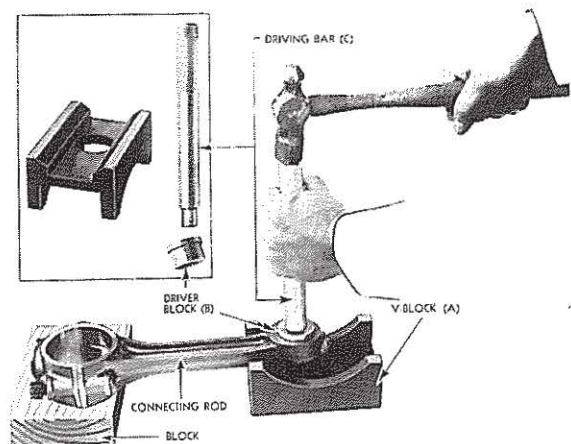

FIG. 12
5. Using hammer and driving bar to drive bushings from rod as shown in Fig. 12.